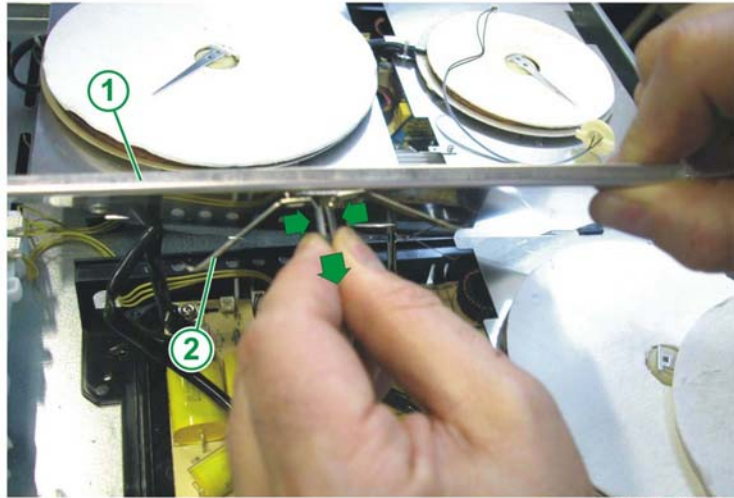

Fig. 70
3. Remove the suspension spring by pressing its sides and pulling it (see Fig. 70).